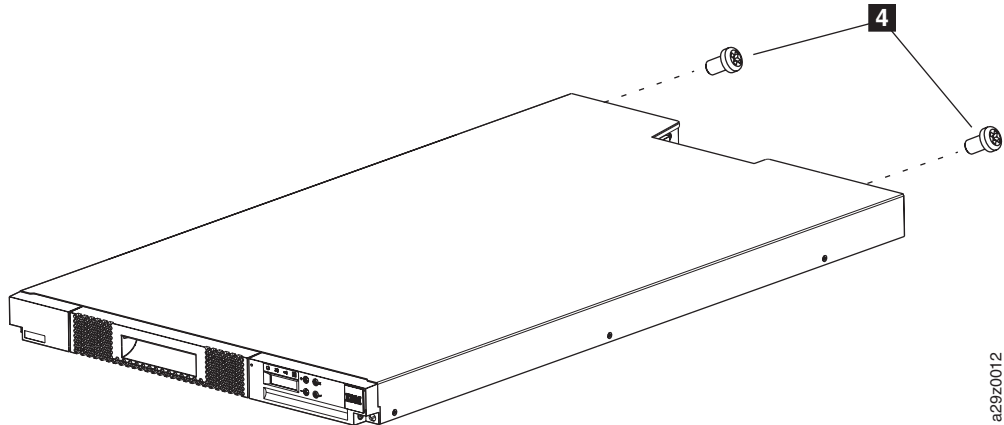

Figure 3-4. Attaching the cover to the library chassis (rear screws)
- Attach the deskside cover using the 2 large binding-head screws **4** on the rear of the library (Figure 3-4).